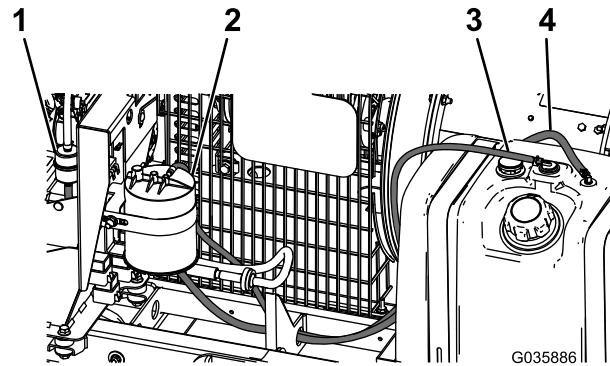

**Figure 7**
- Attach the hose adapter and short hose to the inline fuel filter and secure it to the bottom of the carbon canister (Figure 7).